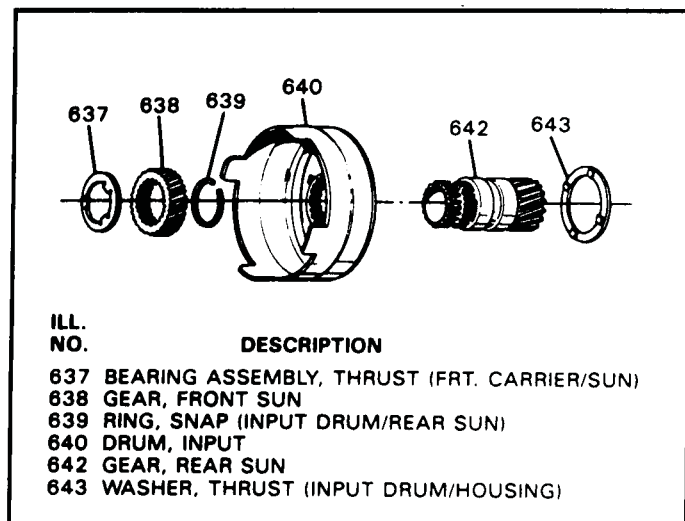

Figure 78
38. Remove the snap ring (639) from the sun gear, remove and inspect the sun gear shell splines. (See Figure 78).
41. Install the new sun gear shell onto the sun gear and reinstall the snap ring (See Figure 78).
42. Install thrust washer (643) onto sun gear shell, and retain with small amount of "Trans-Jel" as shown in Figure 78.